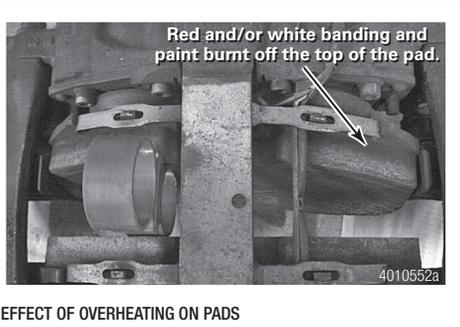
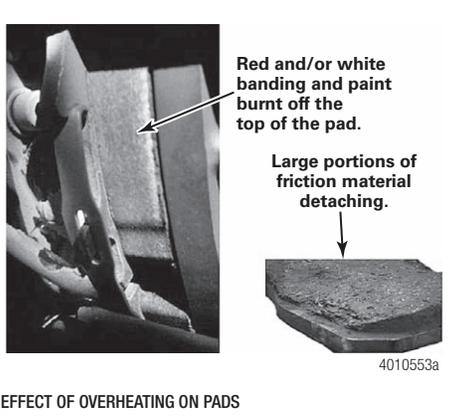

Figure 9
Figure 10
- Brake pads deteriorated from a severe overheating condition. Figure 9 and Figure 10.